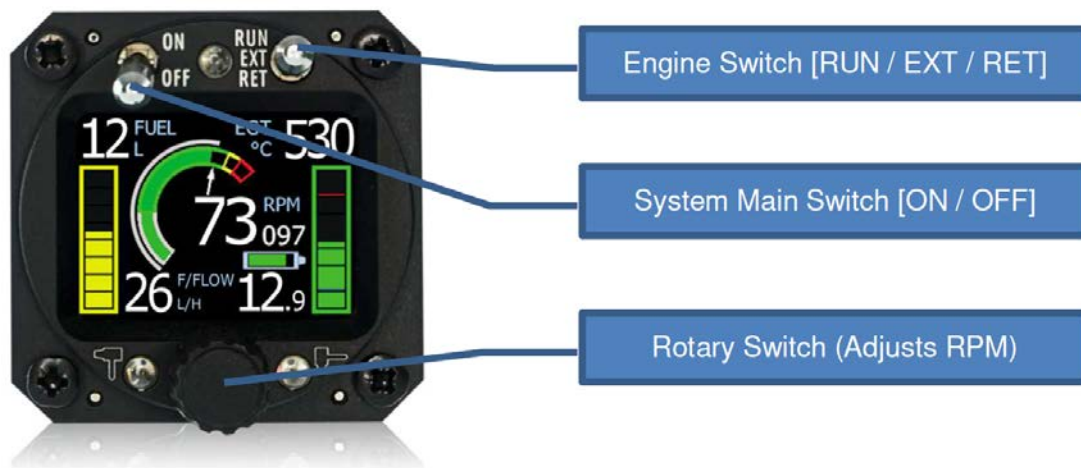

Figure 1: JDU
- 2) Extend the engine. (Set switch to EXT position at JDU, see Figure 1)